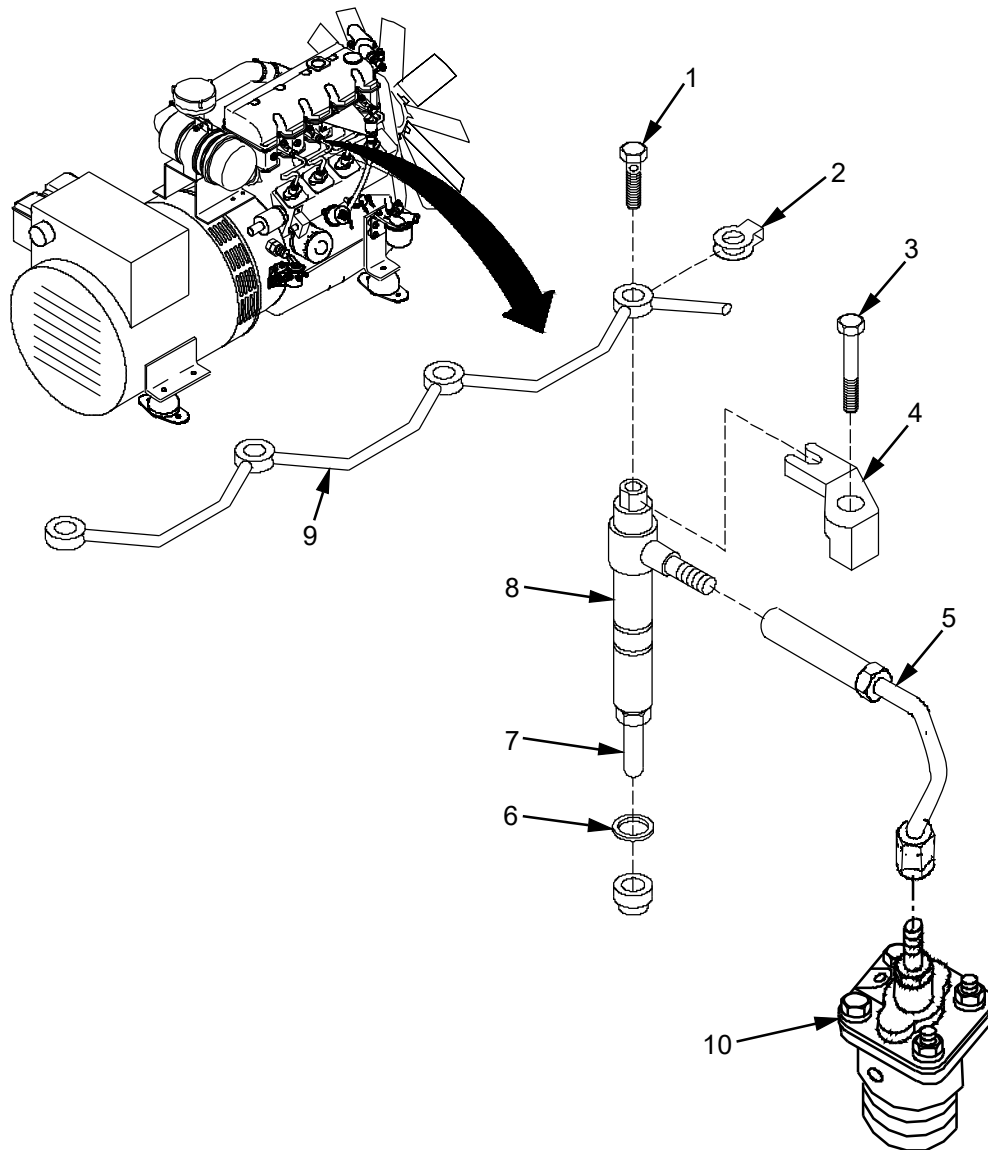
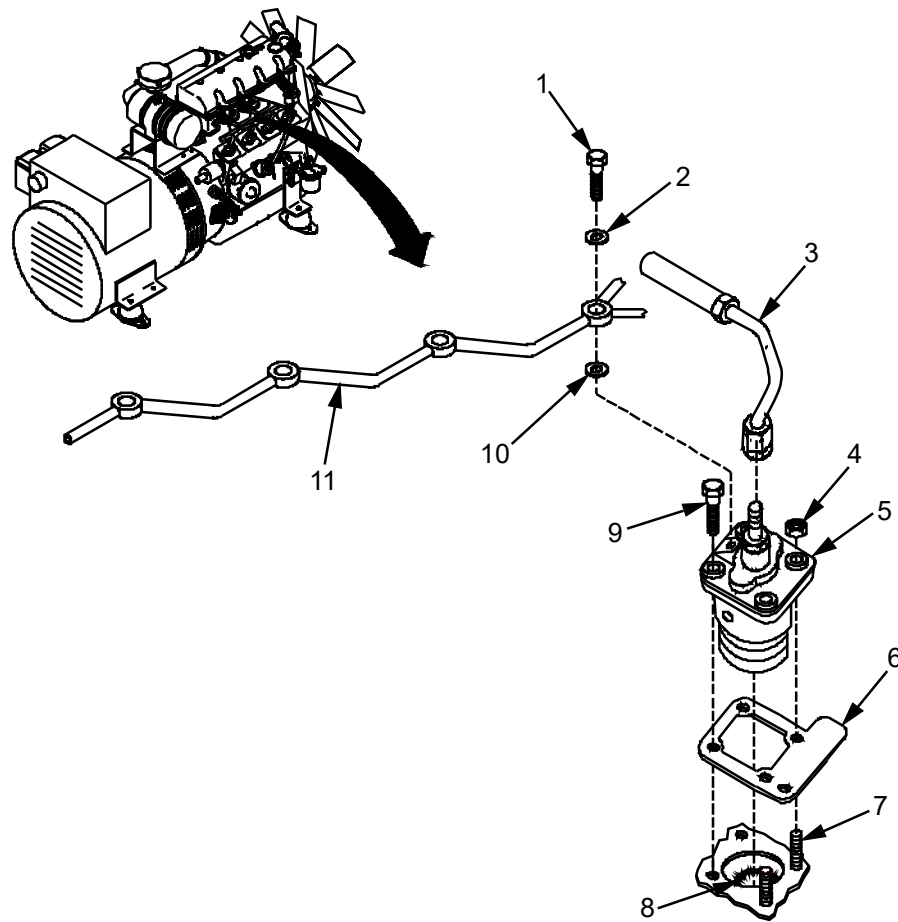

Figure 2. Fuel Injector Replace.
Figure 3. Fuel Injector Pump - Replace.
9. Disconnect injector fuel line (Figure 2, Item 5) from corresponding injector pump (Figure 2, Item 10).
10. Disconnect injector fuel line (Figure 2, Item 5) from fuel injector (Figure 2, Item 8).
11. Remove injector fuel line (Figure 2, Item 5) and set aside.
12. Remove bolt (Figure 2, Item 3) from fuel injector hold down (Figure 2, Item 4) and set aside.
13. Remove fuel injector hold down (Figure 2, Item 4) and set aside.
14. Using a flat tip screw driver, pry up on fuel injector (Figure 2, Item 8) to remove from engine block.
2. Remove any loose carbon build up on tip of fuel injector (Figure 2, Item 7) with cleaning cloth.
3. Using a soft cleaning brush and solvent, clean carbon buildup from tip of fuel injector (Figure 2, Item 7).
1. Ensure fuel injector O-ring (Figure 2, Item 6) is in proper position and serviceable.
2. Press fuel injector (Figure 2, Item 8) into position until seated.
3. Install fuel injector hold down (Figure 2, Item 4) and bolt (Figure 2, Item 3).
4. Using torque wrench, tighten bolts (Figure 2, Item 3) on fuel injector hold down (Figure 2, Item 4) to 23~30 ft./lb (31~41 n-m/3.2~4.2 kgf-m).
5. Align fuel rail (Figure 2, Item 9) with fuel injectors (Figure 2, Item 8).
6. Insert four bolts (Figure 2, Item 1) through fuel rail (Figure 2, Item 9) and brass seals (Figure 2, Item 2) into fuel injector heads.
7. Using torque wrench, tighten fuel rail bolts (Figure 2, Item 1) to 7 to 10 ft./lb (10~14 n-m/1.0~1.4 kgf-m).
8. Place injector fuel line (Figure 2, Item 5) into position.
9. Finger tighten fuel line (Figure 2, Item 5) to corresponding injector pump (Figure 2, Item 10).
10. Finger tighten fuel line (Figure 2, Item 5) to corresponding fuel injector (Figure 2, Item 8).
13. Reconnect battery ground cable (black) (WP 0056, Figure 2, Item 26) to battery.
4. Disconnect battery ground cable (black) (WP 0056, Figure 2, Item 26) from battery.
6. Remove four bolts (Figure 3, Item 1) from fuel injector pump fuel rail (Figure 3, Item 11).
7. Remove four brass seals (Figure 3, Item 2) from top of fuel injector pump fuel rail (Figure 3, Item 11).
8. Lift fuel rail (Figure 3, Item 11) away from fuel injector pumps (Figure 3, Item 5).
9. Remove four brass seals (Figure 3, Item 10) from bottom of fuel injector pump fuel rail (Figure 3, Item 11).
10. Disconnect fuel lines (Figure 3, Item 3) from corresponding injector pumps (Figure 3, Item 5).
11. Disconnect fuel lines (Figure 3, Item 3) from fuel injectors (Figure 2, Item 8).
12. Remove injector fuel lines (Figure 3, Item 3) and set aside.
13. Remove two mounting bolts (Figure 3, Item 9) from fuel injector pump (Figure 3, Item 5) being replaced.
14. Remove two mounting nuts (Figure 3, Item 4) from fuel injector pump mounting studs (Figure 3, Item 7).
15. Remove fuel injector pump (Figure 3, Item 5) and set aside. Remove old fuel injector pump seal (Figure 3, Item 6) and discard.